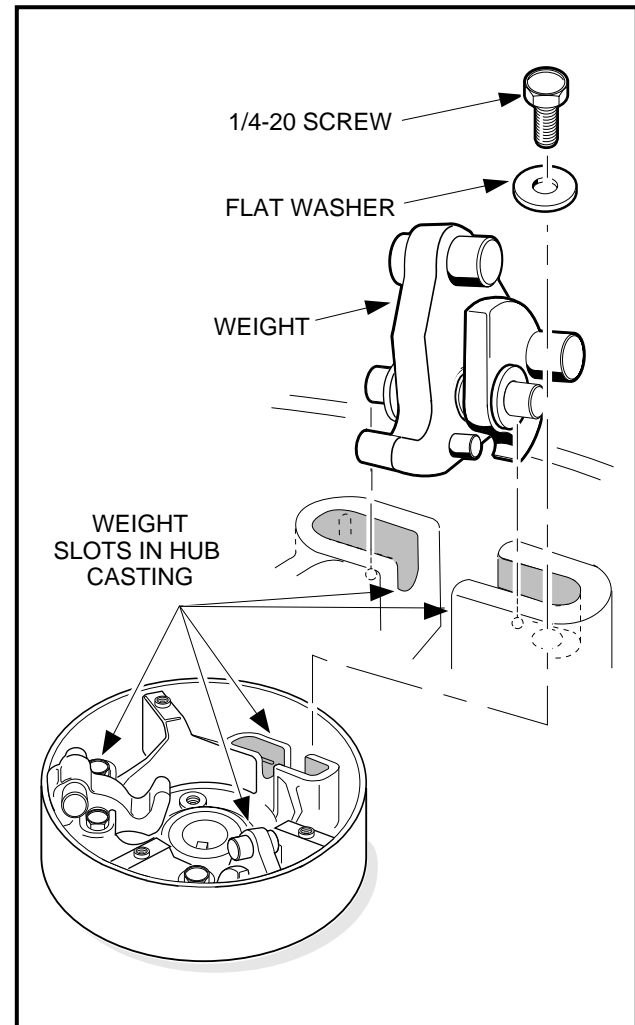
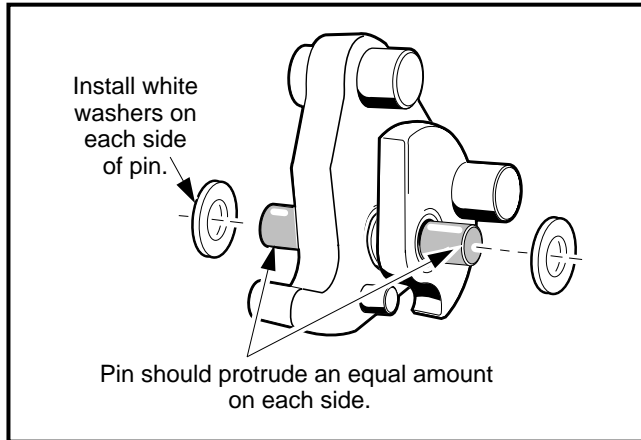

Figure 17-9 Weight Position
Figure 17-14 Install White Washers
5. Remove the clutch weights (**Figure 17-9, Page 17-8**):
- 5.1. Remove the screws and flat washers attaching the weights as shown (**Figure 17-9, Page 17-8**).
10. Install white plastic flat washers on each end of the mounting pin and push them against the outside surfaces of the weights. Center the weights and washers on the mounting pin (**Figure 17-14, Page 17-11**).
11. Install the weight assemblies into the slots in the hub casting (**Figure 17-9, Page 17-8**). Make sure the mounting pin protrudes an equal amount on each side of the weights when the assemblies are in position (**Figure 17-14, Page 17-11**).
16. Install a number 10-24 button retaining screw with flat washer through each button and into the rib. Tighten the screws to 34 in-lb (3.8 N·m) (**Figure 17-9, Page 17-8**).